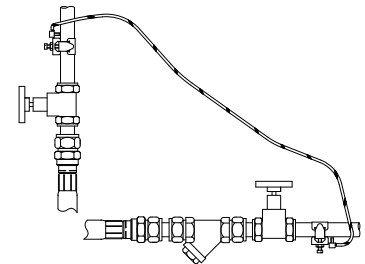

Fig. 6
- 3.15 **Adjacent pipes:** Adjacent suction and delivery pipes should be fitted with earthing clamps to BS 951 in accordance with current regulations (Fig.6).